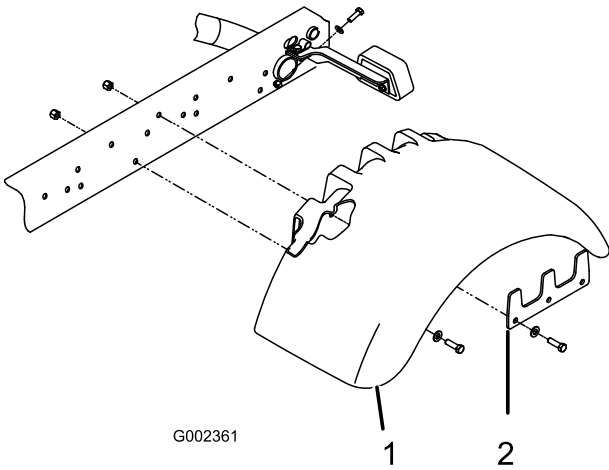

Figure 4
- Loosely secure a fender to each side of frame with a support plate, (5) 3/8 x 1-1/4 in. bolts, and a locknut as shown in Figure 4.